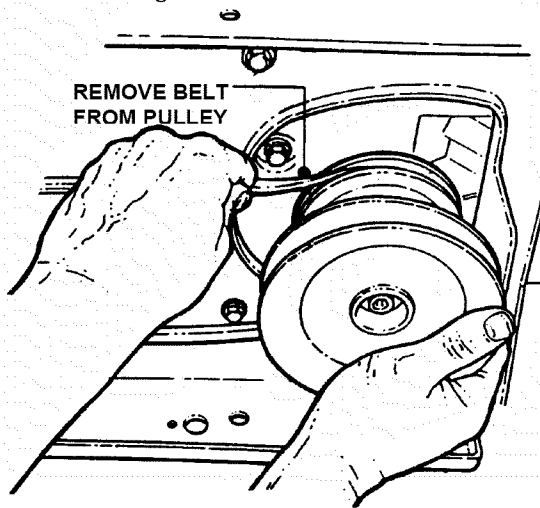

FIGURE 4.34
5. Remove traction drive belt from engine pulley top groove. See Figure 4.34.